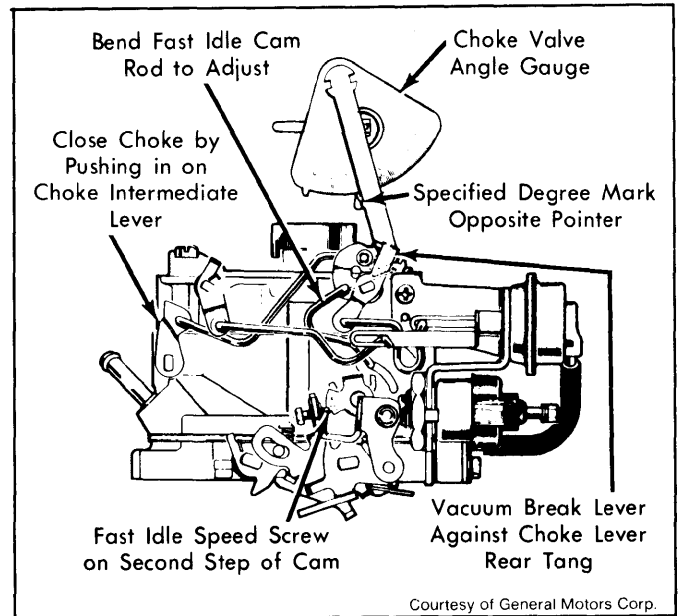

Fig. 6: Adjusting 4-Cylinder Engine Choke Rod (Fast Idle Cam)
- 2) Place fast idle speed screw on second step of fast idle cam against shoulder of highest step. See Fig. 6 or 7. Close choke valve by pushing on choke shaft lever to open choke valve and to make contact with closing tang.
- 4) To adjust, support fast idle cam rod at area on rod and bend fast idle cam rod until bubble of choke valve angle gauge is centered. See Fig. 6 or 7.